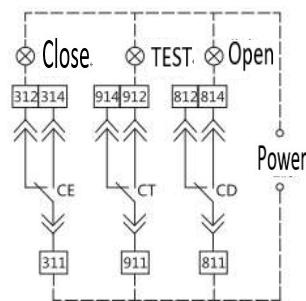

Figure 5
The wiring diagram is shown in Figure 4 (1600-4000 frame), figure 5 (2000-2500-3200-6300 frame), and the dotted part is connected by the user
- When the circuit breaker is in the connection position, the wiring diagram is shown in Figure 5 (the dotted line part is self connected by the user); the three position indication signals of multiple groups are shown in Figure 6